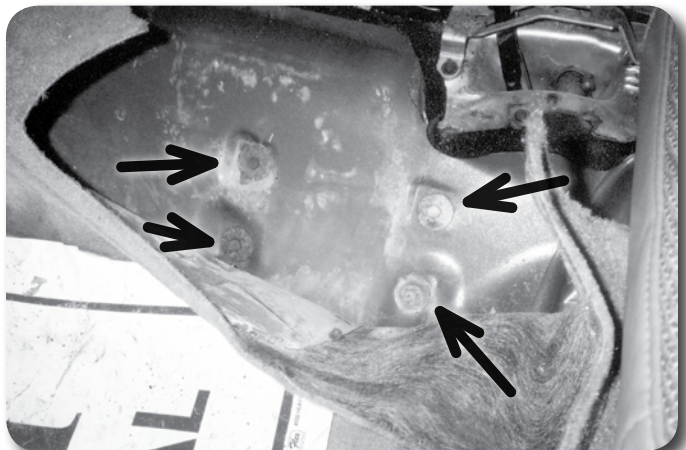

Figure 15
9. Locate the transfer case shift linkage pivot bracket mounted to the underside of the floor on the driver's side, next to the transfer case. The bracket is mounted to the floor with four bolts that are accessed under the carpet in front of the driver's seat. Pull the carpet up and remove the bolts **Figure 15**. Save hardware.